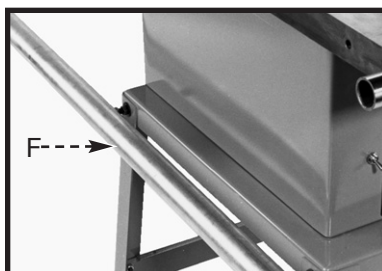

Fig. 7
6. Attach the lower guide rail (F) Fig. 7 to the two holes in the stand using the two flat washers and nuts that were removed from the lower rail assembly in **STEP 3**.
NOTE: Position the end of the rail (F) Fig. 7 with the stud closest to the end toward the front.
7. Tighten the four nuts that attach the guide rail (F) Fig. 7 to the stand. Leave a space of 1-1/4" between the guide rail and the stand. Final adjustments will be made later.